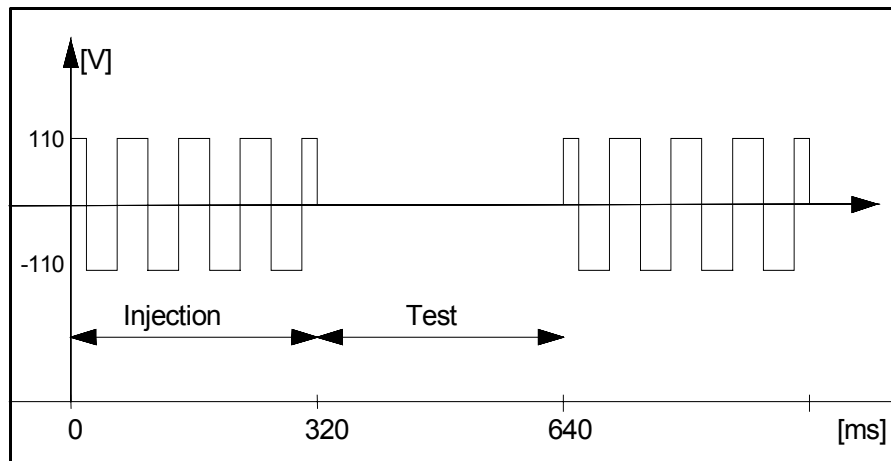

Fig. 2.3 Injection signal Uis
- Fig. 2.3 Injection signal Uis